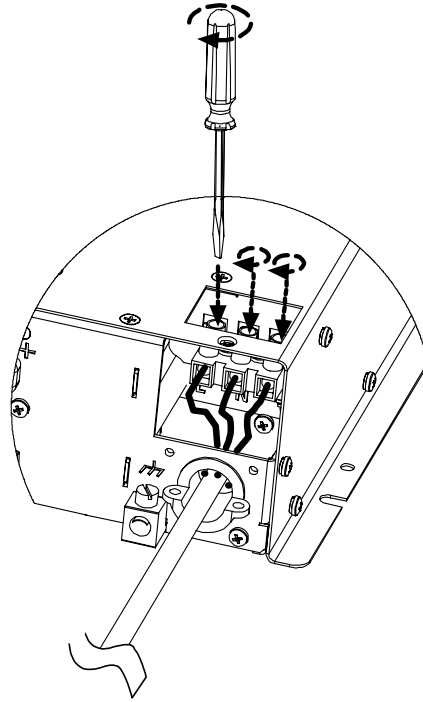

Figure 2-8 Completing the Hardwiring
13. Tighten the wire attachment screws to a torque of 1.3–1.8 lbf-ft (1.76–2.44 Nm) as shown in Figure 2-8. Leave some slack inside the output wiring box.